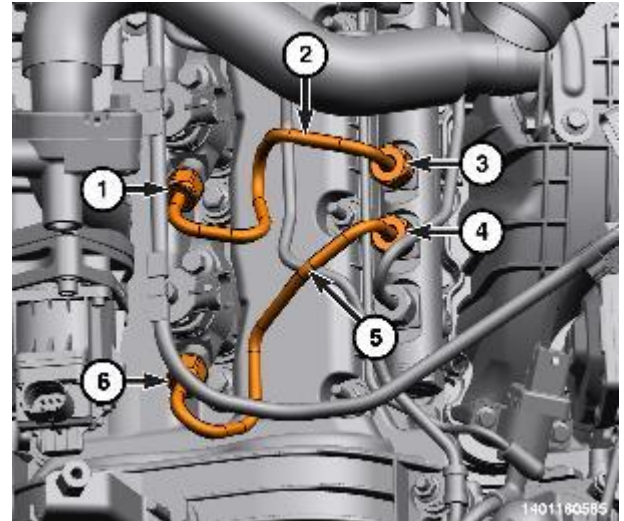

Figure 164 – Fuel Tubes
- 30. Remove and discard the right-side fuel tubes (5, 2) from fuel injectors No. 1 and 2 (Figure 164).
51. Install the **NEW** right-side fuel tubes (5, 2) to the fuel injectors No. 1 and 2 and to the fuel rail and hand tighten the nuts. Tighten the union nuts to 11 + 75° (8 + 75°) (Figure 164).